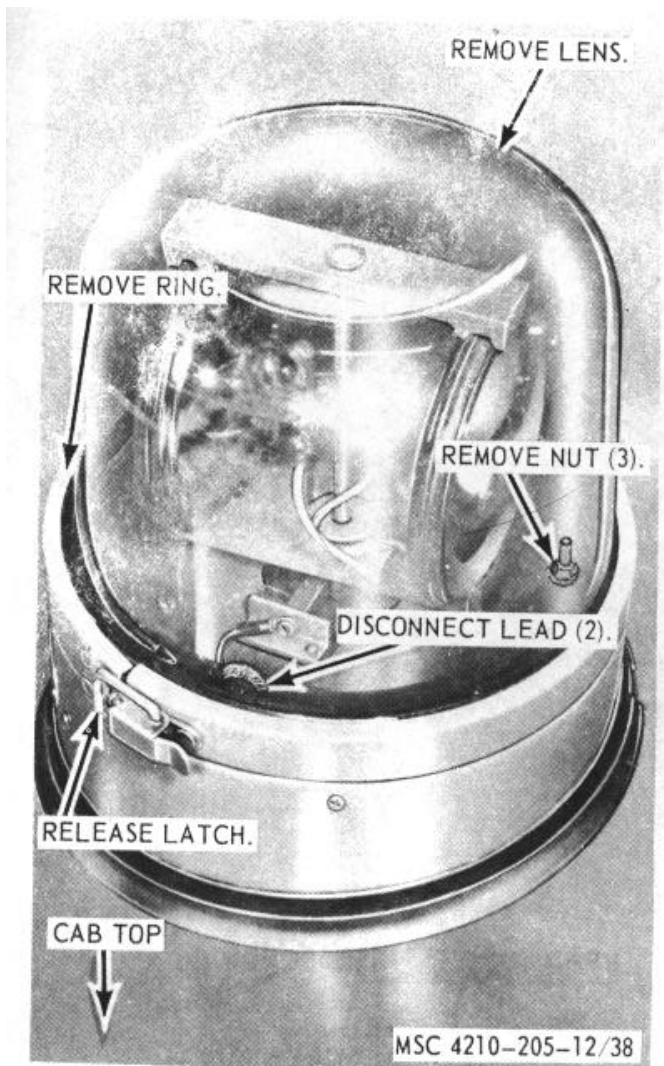

Figure 38. Beacon warning light, removal and installation.
- a. *Removal.* Refer to figure 38, and remove the beacon warning light from the fire truck.
e. *Installation.* Refer to figure 38, and install the beacon warning light on the fire truck cab.